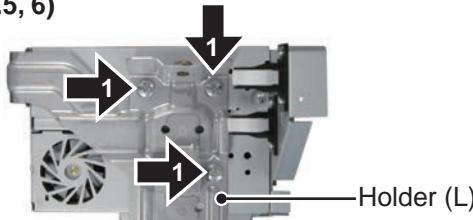

Fig.5
**● Removing the Holder and the Cord Assy (Fig.5, 6)
- 1 Remove the three screws and then remove the Holder (L). (Fig.5)